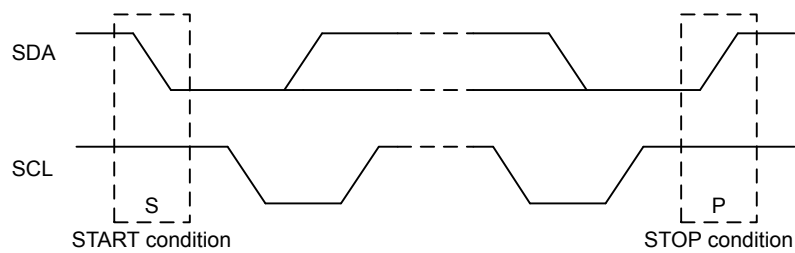

Figure 23.4. I2C START and STOP Conditions
START and STOP conditions are used to initiate and stop transactions on the I²C-bus. All transactions on the bus begin with a START condition (S) and end with a STOP condition (P). As shown in Figure 23.4 I2C START and STOP Conditions on page 725, a START condition is generated by pulling the SDA line low while SCL is high, and a STOP condition is generated by pulling the SDA line high while SCL is high.